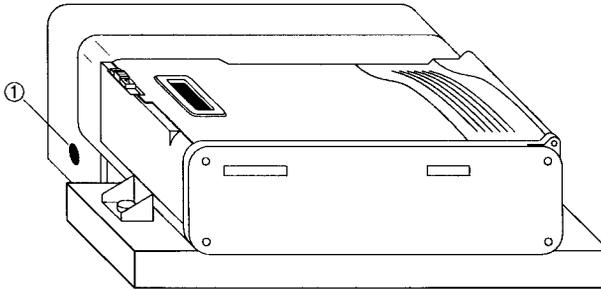

Figure 5. Manual film rewind.
- Step 1: Locate the recessed film rewind button on the left side of the camera. See Figure 5.